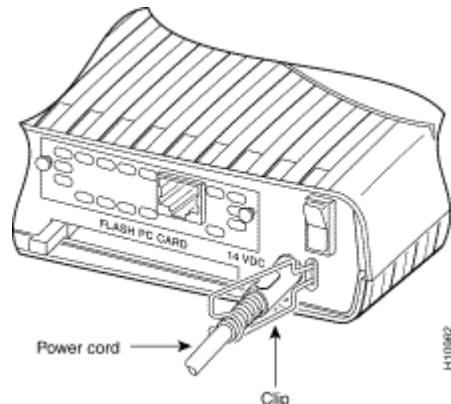

Figure 1
Step 1 Connect the DC power cable (included with the router) from the power supply to the DC power input on the rear panel of the router. (Figure 1)
Step 5 Slip the wire clip over the power cord to ensure that the power cord remains attached to the router, as shown in Figure 1.